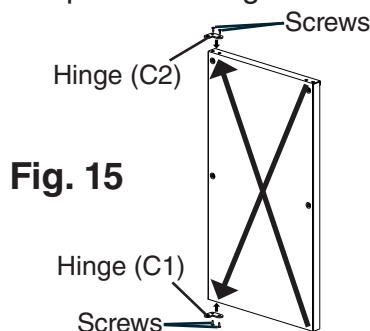

**Fig. 13**
- Remove hinge (B) from the right side of the unit and the 2 filler screws from the left side. Attach the 2 filler screws to the right side and attach hinge (B) to the left side. See Fig. 13.